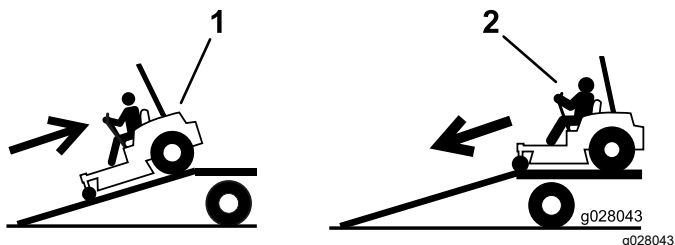

Figure 32
4. Back the machine up the ramp (Figure 32).
5. Drive the machine forward down the ramp (Figure 32).